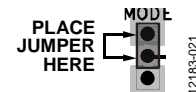

Figure 5. Enabled Jumper Position
- Use a jumper to connect the top two pins of the MODE bus. This jumper connects MODE to VREG and places the ADP1972 in buck/charge mode (see Figure 5).